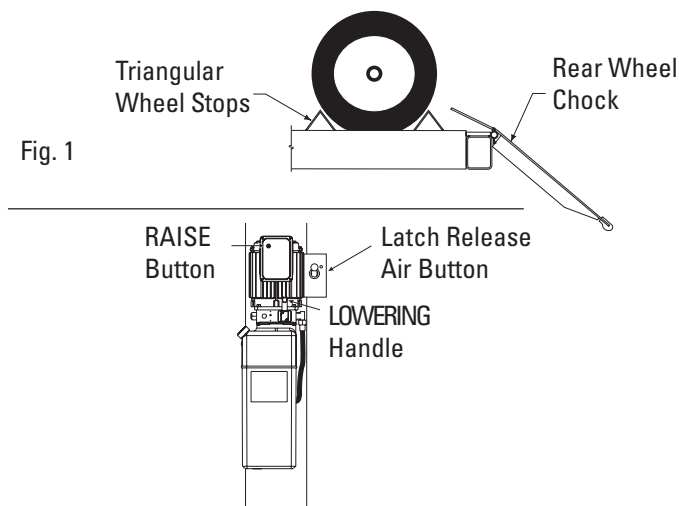

Fig. 2
5. To Raise Lift: Push the "RAISE" button on the power unit. Release button at desired height, Fig. 2.
10. Actuate the latch release valve on the power unit column to disengage all four locking latches, Fig. 2. Hold actuator until lift has fully lowered.
11. Push the lowering handle on the power unit to lower lift, Fig. 2. Lowering speed can be controlled by the force applied to the lowering handle.